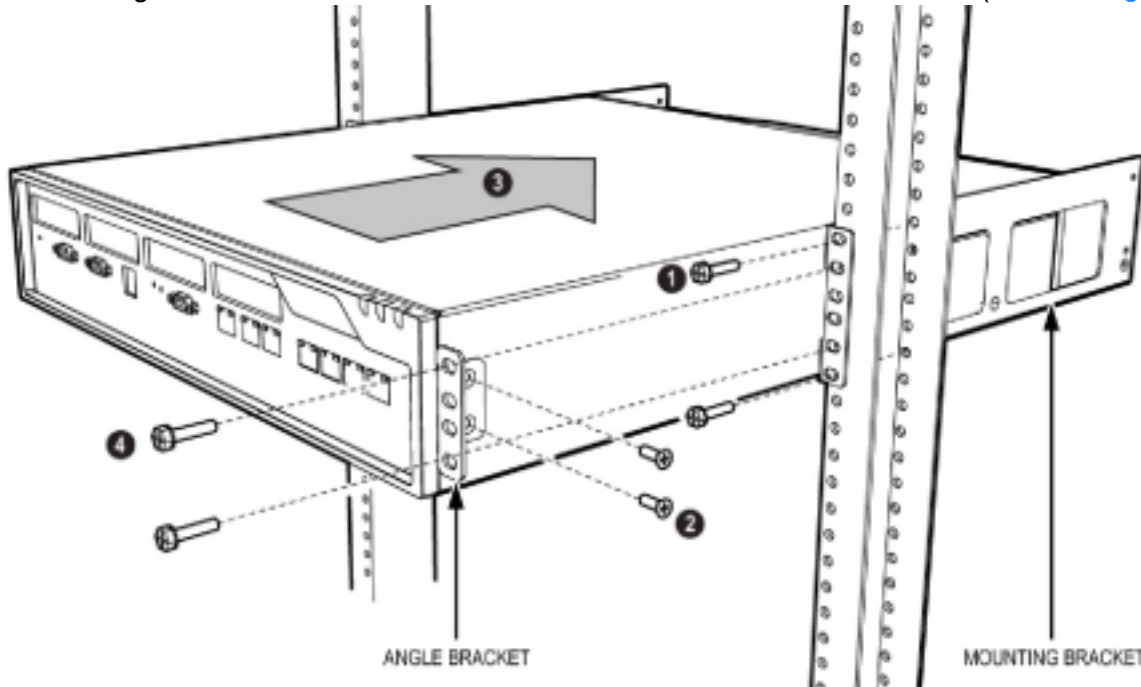

Figure 4.8: MXe III/MXe III-L and CX II/CXi II Controller Rack-Mount 4-Piece Bracket Installation
- Figure 4.8*). Then do the same to fasten the other mounting bracket on the other side of the rack frame at the same height.
2. Fasten the angle brackets on each side of the cabinet. Align the brackets with the pre-drilled holes located near the front panel. Use two screws to fasten each bracket (see 2 in *Figure 4.8*).
3. Set the controller cabinet onto the mounting brackets and slide the controller cabinet into the cabinet (see 3 in *Figure 4.8*).
4. Fasten the angle brackets to the rack frame. Install two screws in each bracket (see 4 in *Figure 4.8*).